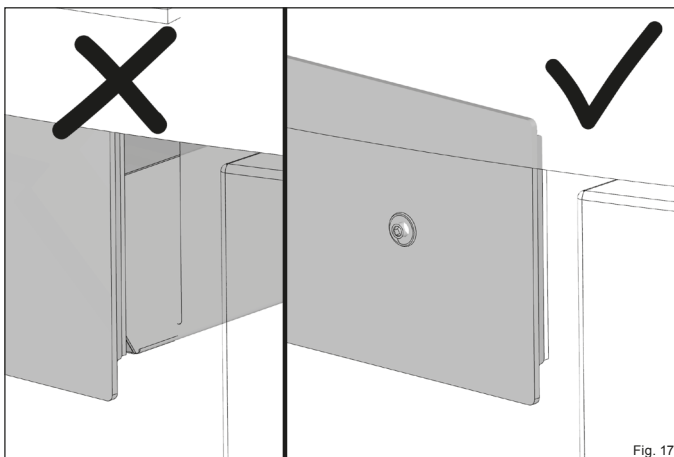

Fig. 17
- ✓ **Slide the ash drawer back into the opening so it is flush with the seal (Fig. 17).**